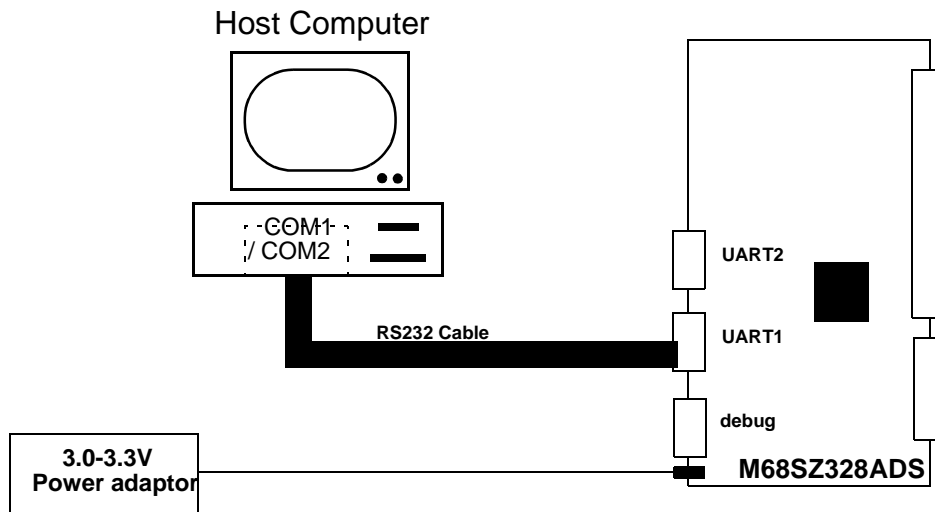
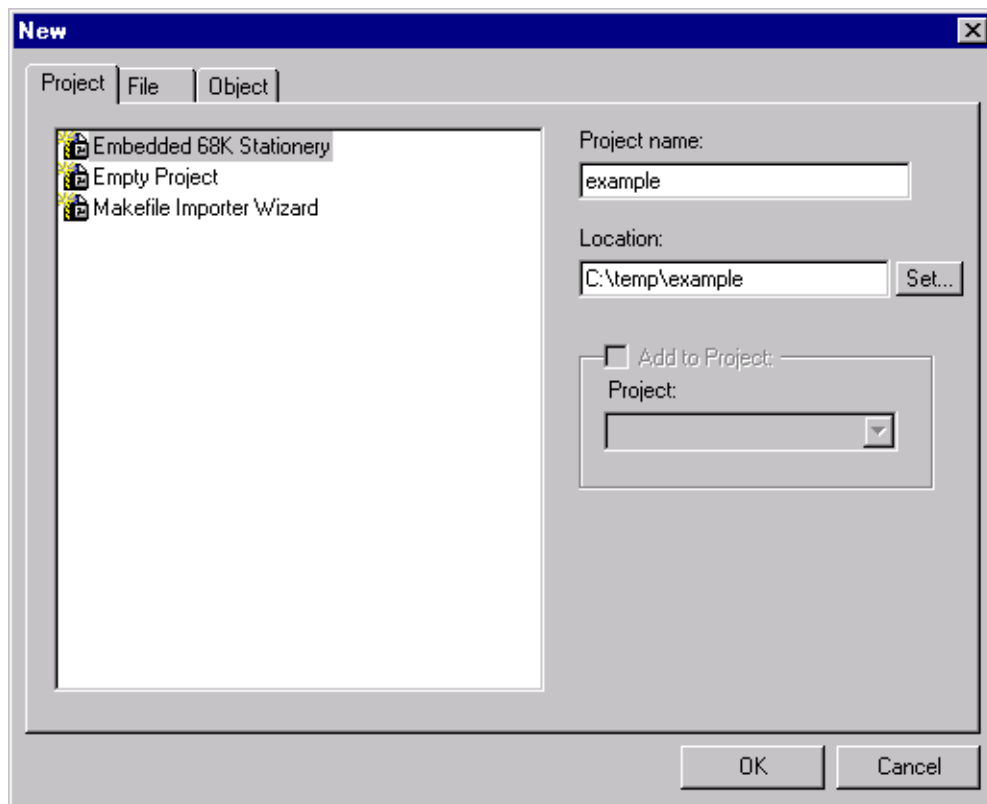

Figure 2-7. Connecting PC to UART1 of M68SZ328ADS
Figure 2-8. New Project in MetroWerks
4. Inside the **Debug** pop-up window, choose the object file to download or "debug without file" as shown in Figure 2-7, select the serial port (COM1 or COM2) according to the serial port of the PC connecting to the ADS, disable "hardware flow control" and the baud rate should be 115200bps as shown in Figure 2-8.